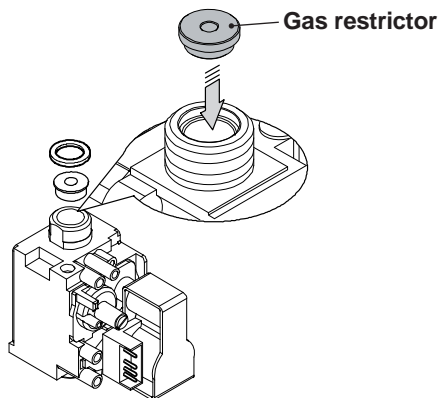

Fig. 8.2
- Carry out gas conversion by correctly replacing the gas restrictor (Fig. 8.2), referring